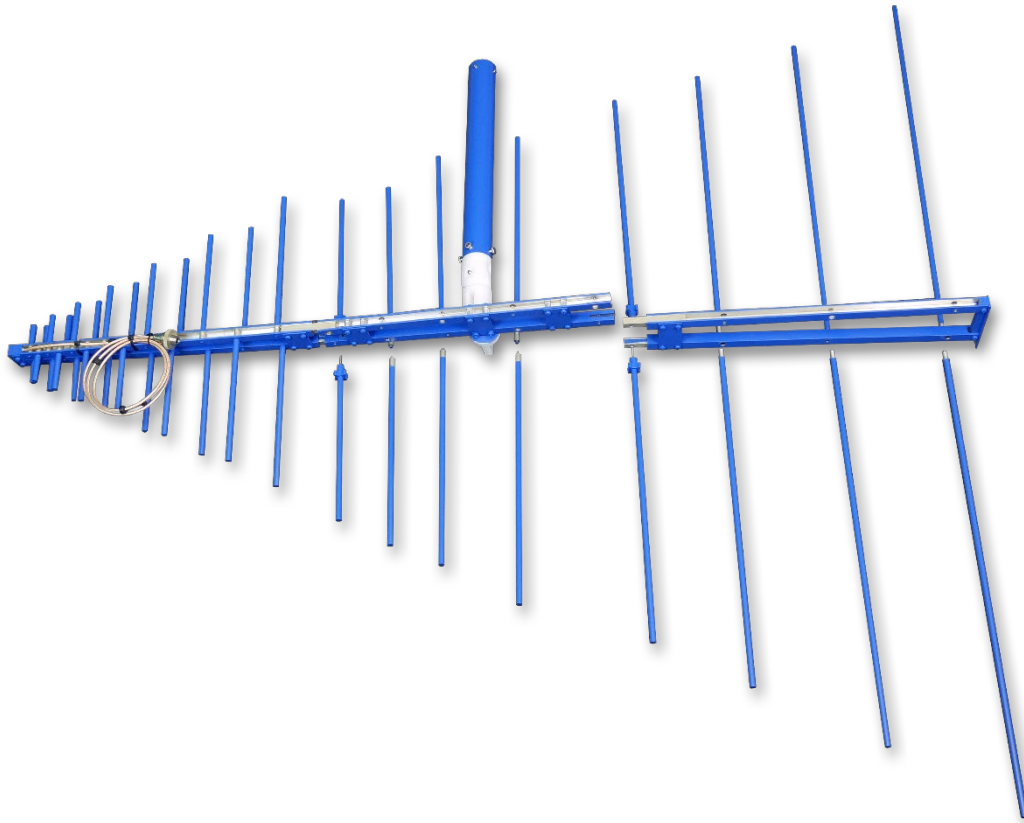

Figure 4-1 LPD-100M1G Assembly
1. Lay out the three boom sections with the cable and connector mount at the top of the assembly (see Figure 4-1 & 4-2). Fit the three sections of the boom together. Do not press the cable into place unless the booms are securely fastened together.